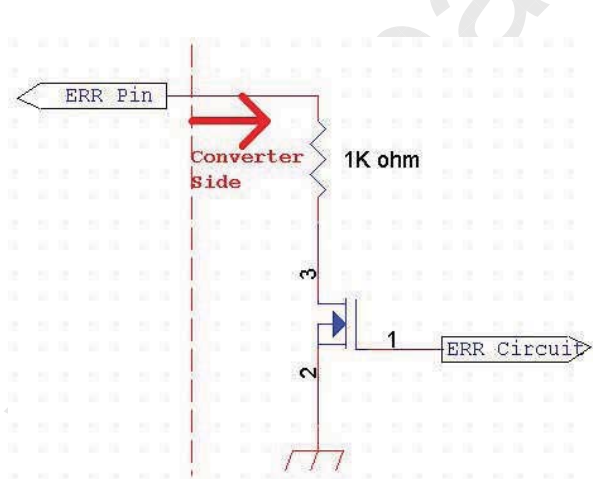

Fig. 2
Note (4) When converter protective function is triggered, ERR will output open collector status. Please refer to Fig.2.